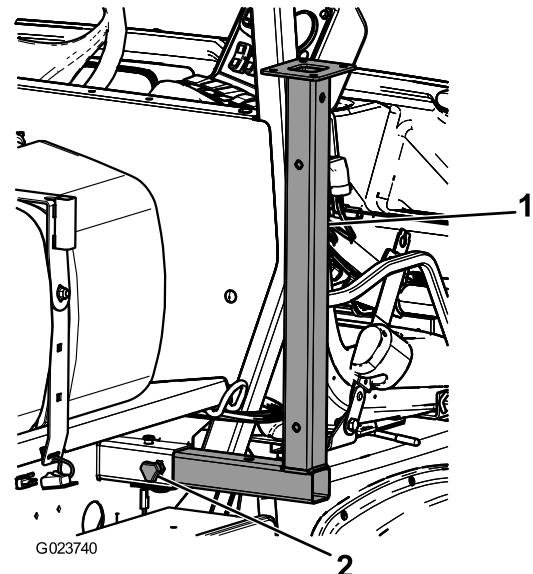

Figure 28
1. Insert the front jack stands upside down into the frame near the front tie-down points (Figure 28).